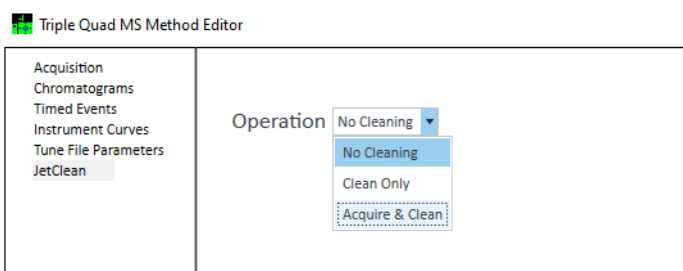

Figure 31. TQ MS Method Editor JetClean panel
- 3 Select a mode from the **Operation** dropdown menu. (See **Figure 31**.)